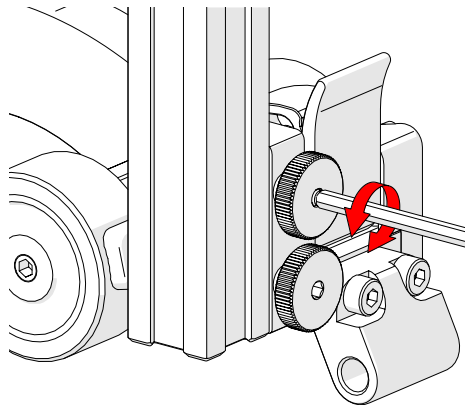

Fig. 42 - Use 3 mm hex driver
4. The 3 mm hex driver may tighten and loosen the knobs should additional strength be required (*Fig. 42*).